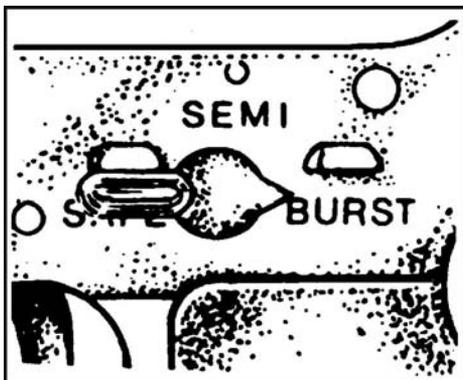

Figure 071-311-2026-4. Selector lever in BURST position
4. Check an M16A2 or M16A4 with the selector lever in the BURST position (figure 071-311-2026-4).